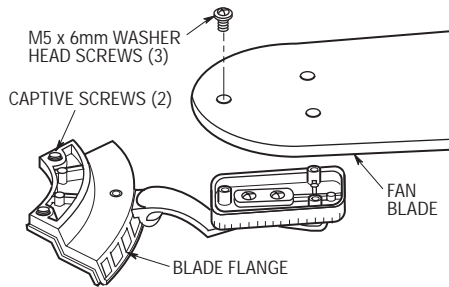

Figure 9
- 10. Mount one blade flange to a fan blade using three M5 x 6mm washer head screws (supplied) (Figure 9). Repeat this procedure for the four remaining blades.